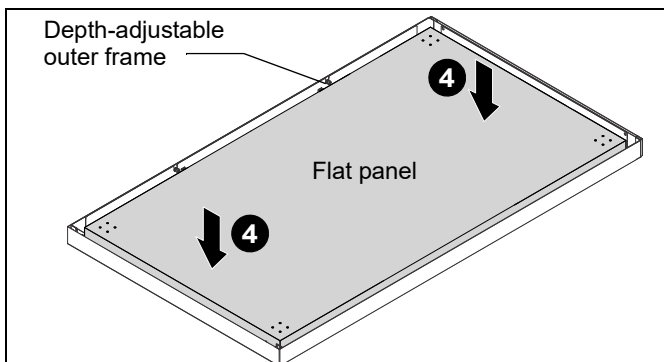

Figure 8
4. Carefully lay flat panel face down into the depth-adjustable outer frame. (See Figure 8)